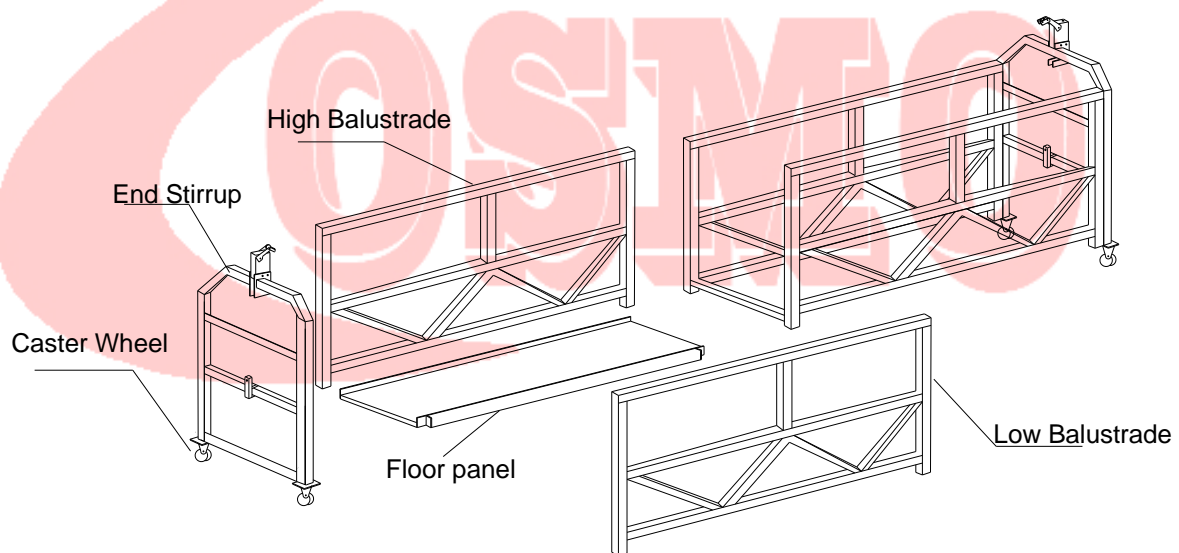

Figure 12 Installation of Suspended Platform
5.3.1 Put the bottom plate on the ground, mount front and rear guard rail and fix bolts and nuts respectively. (**See Figure 12**)